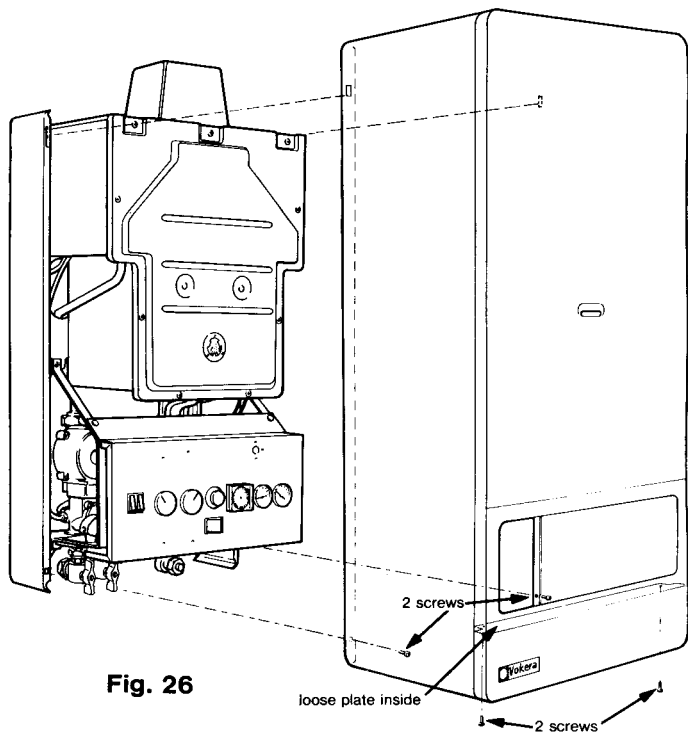

Fig. 26
6.17 Refixing the front cover (fig 26)